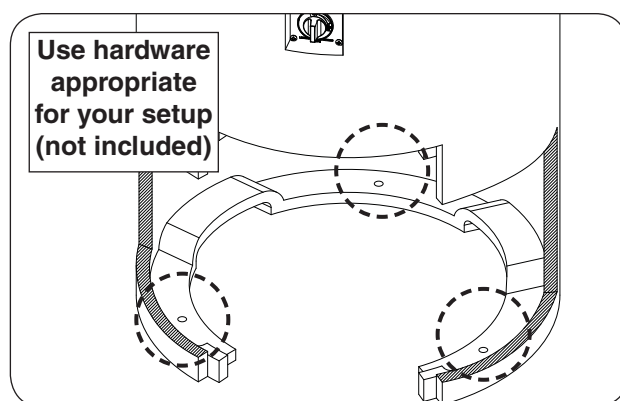

Fig. 20-4 Mount unit to floor
1. Using appropriate mounting hardware for the floor material/construction, secure the unit into the floor. The interior of the unit has three $\frac{1}{2}$ " holes that will allow for the unit to be fastened to the floor. See Fig. 20-4.